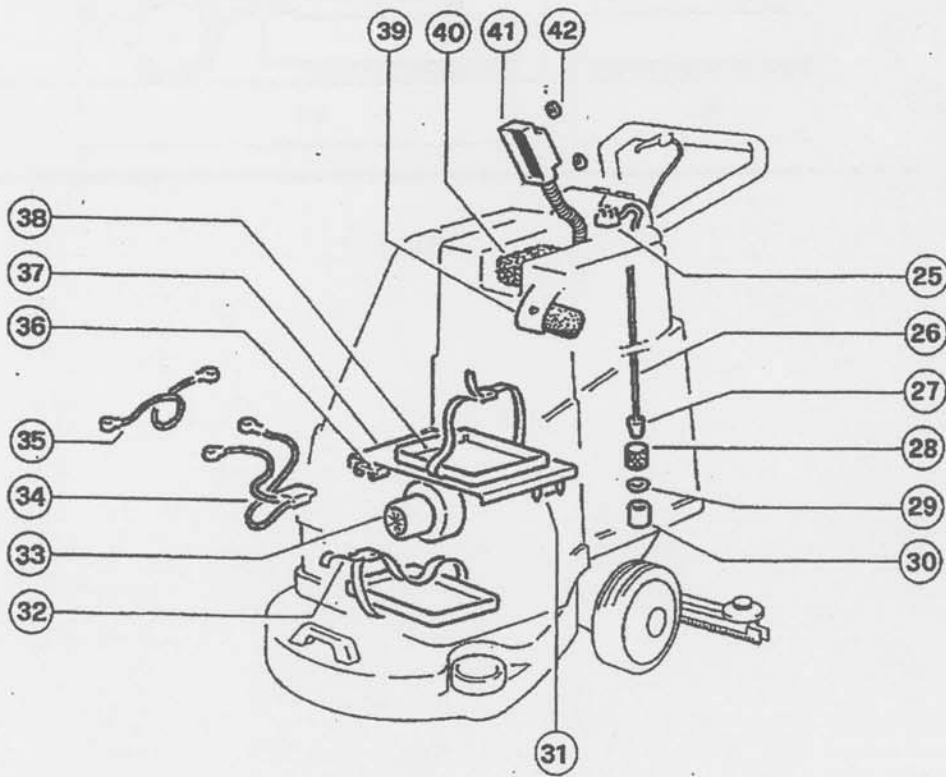

Fig. 3
If you have to replace the cable, plug or terminals, secure the electrical connections and cable strap (fig. 3, N°. 25) so that the cable cannot be ripped. Carefully refit the electrical boxes to ensure operator safety.
- remove the battery wiring and jumper with terminals (only for the battery-operated model, fig. 3 - N° 34 e N° 35);
- on the upper battery support (fig. 3, N° 37), at the side of the upper battery plate (fig. 3, n° 38), there is a label showing the layout of the batteries and cables: the battery on the top plate must have the + and - poles facing the tanks, whereas the ones on the lower plate must face away from the tanks;
- open the fastening of the lower battery holder belt (fig. 3, N° 32) and adjust so that its ends face the side opposite the suction motor (fig. 3, N° 33) (i.e. the left side of the machine) to prevent them obstructing the battery plate;